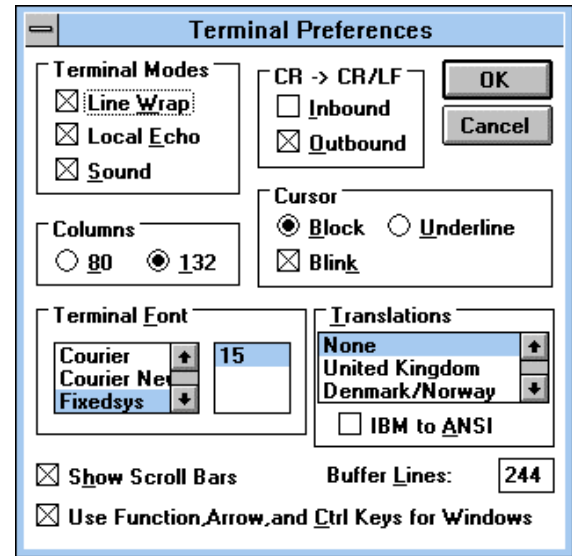

Figure A-4. Terminal Preferences Dialog Box
- a. Using Figure A-4 as a guide, make the following selections in the dialog box: